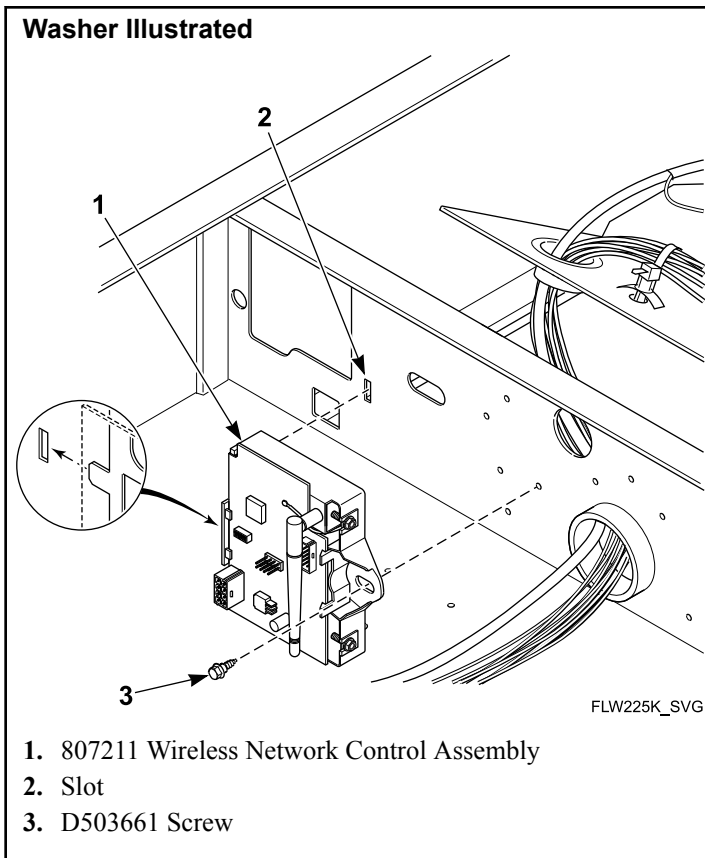

Figure 5
6. Place the tab on 807211 Wireless Network Control Assembly into slot in front bulkhead and secure opposite end with one D503661 Screw. Refer to *Figure 5* .